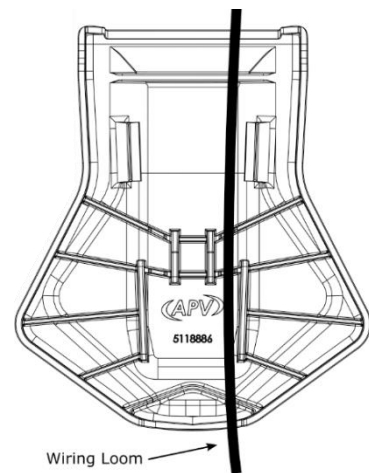

Figure 4: Recommended Wire Route
5. Snap fit the supplied black plastic cover into place by first inserting ~5mm into the orange rubber arm, then routing the wiring loom per Figure 4, then pivoting down until the hooks snap into place.